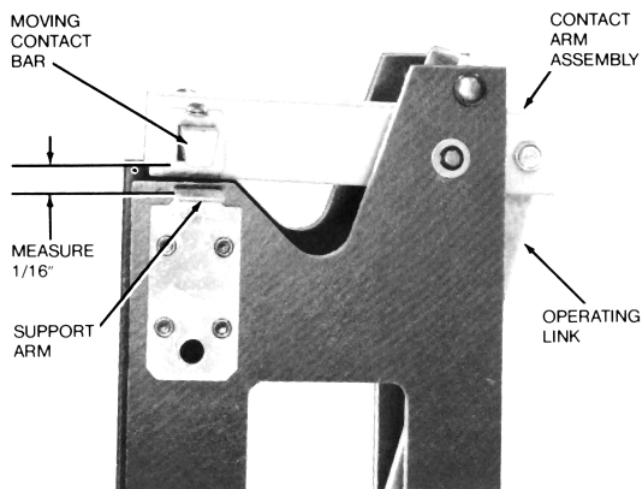

Figure 14.
6. With the mechanism closed, the moving contacts should be within 1/16-inch of full engagement, as measured between the top edge of the moving contact insulator and the bottom edge of the contact box side plate as shown in Figure 14. To obtain this dimension, adjust the effective length of the insulated operating link by adjusting the attaching point for the contact arm assembly in the slotted hole of the link. Be sure to retighten the elastic stop nut when adjustment is completed.